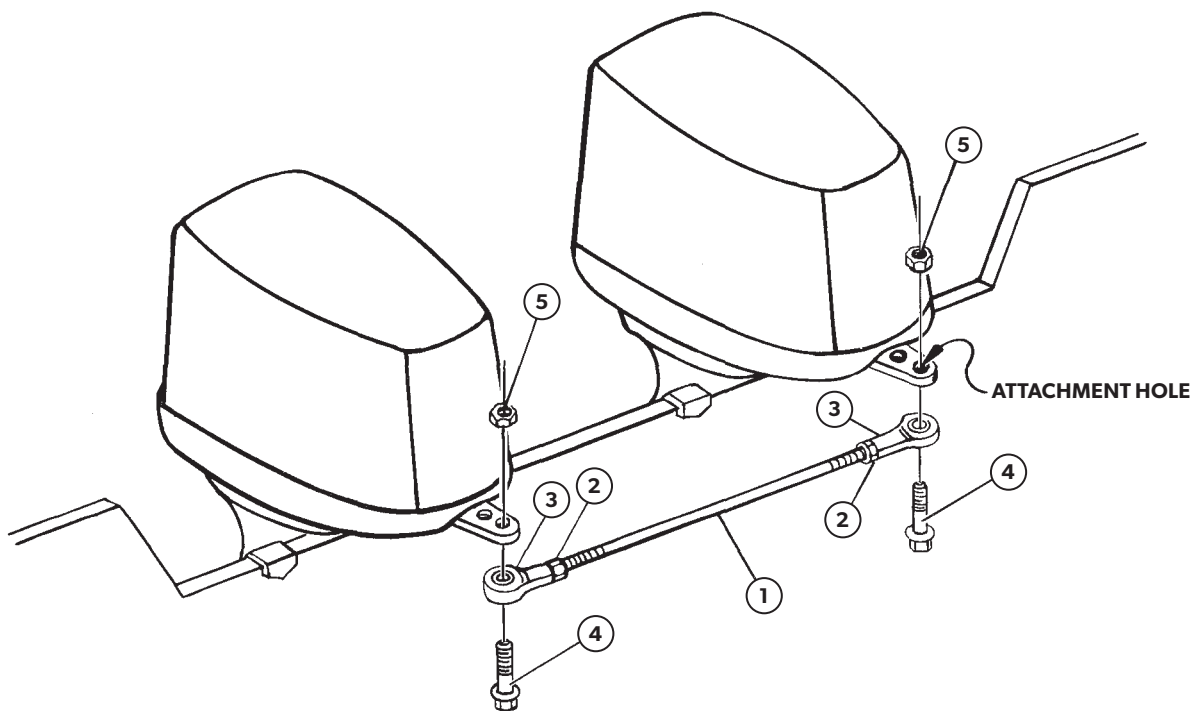

Figure 2.
1. Refer to figure 2. Thread one hex. nut (item 2) on to each end of tie bar (item 1) leaving approximately 2" (50 mm) of thread exposed.
2. Thread rod end (item 3) fully on to each end of tie bar, then back off equally until holes in rod ends align with tiller arm attachment holes.
1. Place tie bar assembly in position beneath tiller arms and as shown in figure 2. Johnson/Evinrude tiller arms have two attachment holes. The tie bar assembly must be mounted in the outer holes. The inner holes (closest to motor) are for steering cable linkage.
2. Install one flange head bolt (item 4) upward through each rod end as shown, and thread into tiller arm attachment hole. Thread on locknuts (item 5) and torque hardware to 200 in. lbs. minimum. Do not exceed 250 in. lbs.